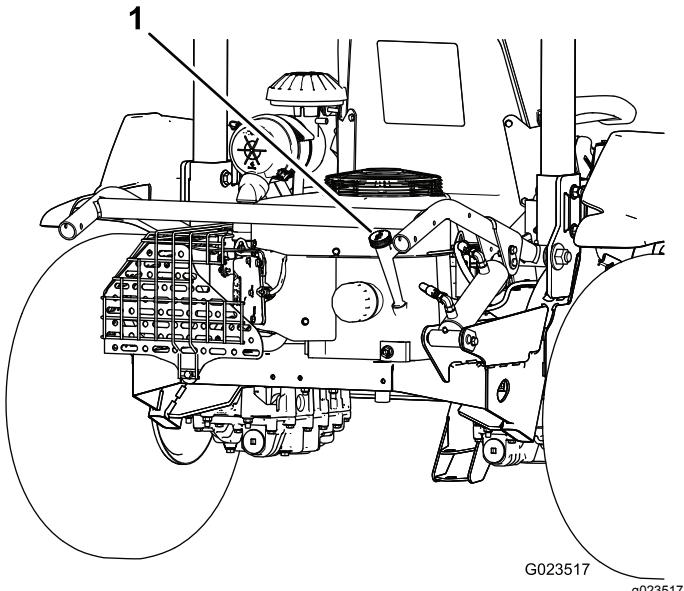
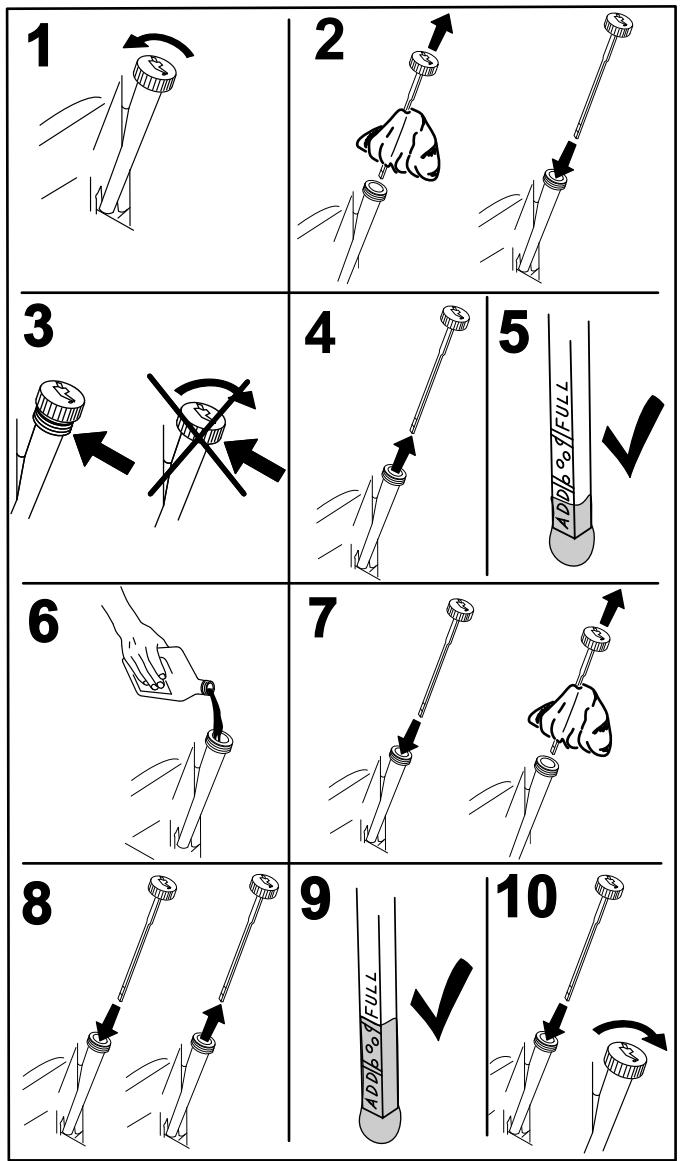

Figure 14
Figure 15
2. Remove the dipstick (Figure 14) and wipe it with a clean cloth (Figure 15).